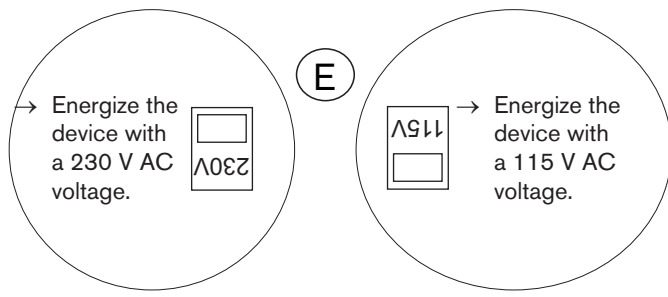

Fig. 11 : Selector of the supply voltage on a 115/230 V AC version
- If the wall-mounted version is energized with a 115/230 V AC power supply, set selector **E** as shown in Fig. 11.